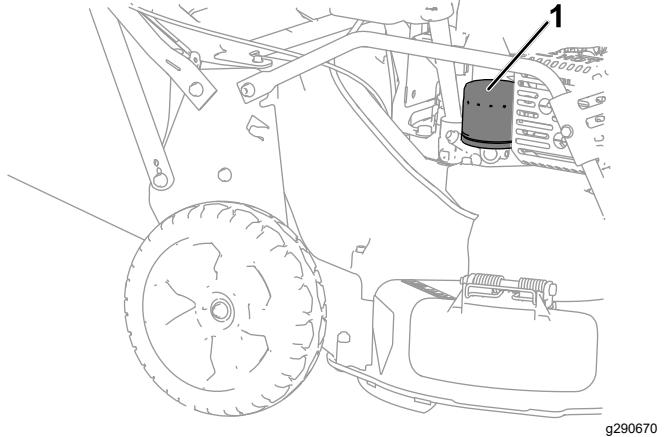

Figure 26
6. Remove the oil filter (Figure 26).